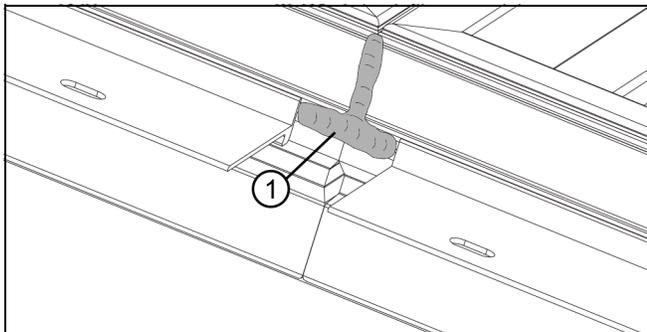
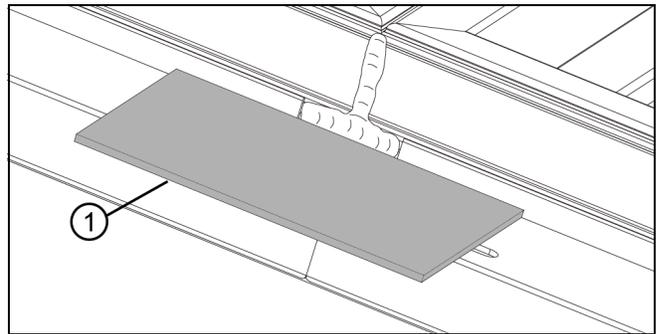

Figure 17
Figure 18
9. Apply silicone sealant at both mullion joints from the frame exterior edge to the drip cap/nailling fin kerf and across the kerf over the mulling pin as shown in Figure 17 and Figure 18. Apply the nailing fin connector by removing the paper backing from the connector and pressing into place.
8. Apply silicone sealant at both mullion joints from the frame exterior edge to the drip cap/nauling fin kerf and across the kerf over the mulling pin as shown in Figure 17 and Figure 18. Apply the nailing fin connector by removing the paper backing from the connector and pressing into place.